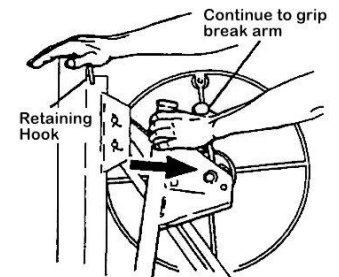

Figure 4
- c) Place your right hand on top of the frame. Still holding the bar brake to prevent the steel cable from springing back, then Pull the winch completely towards you (Fig. 4).